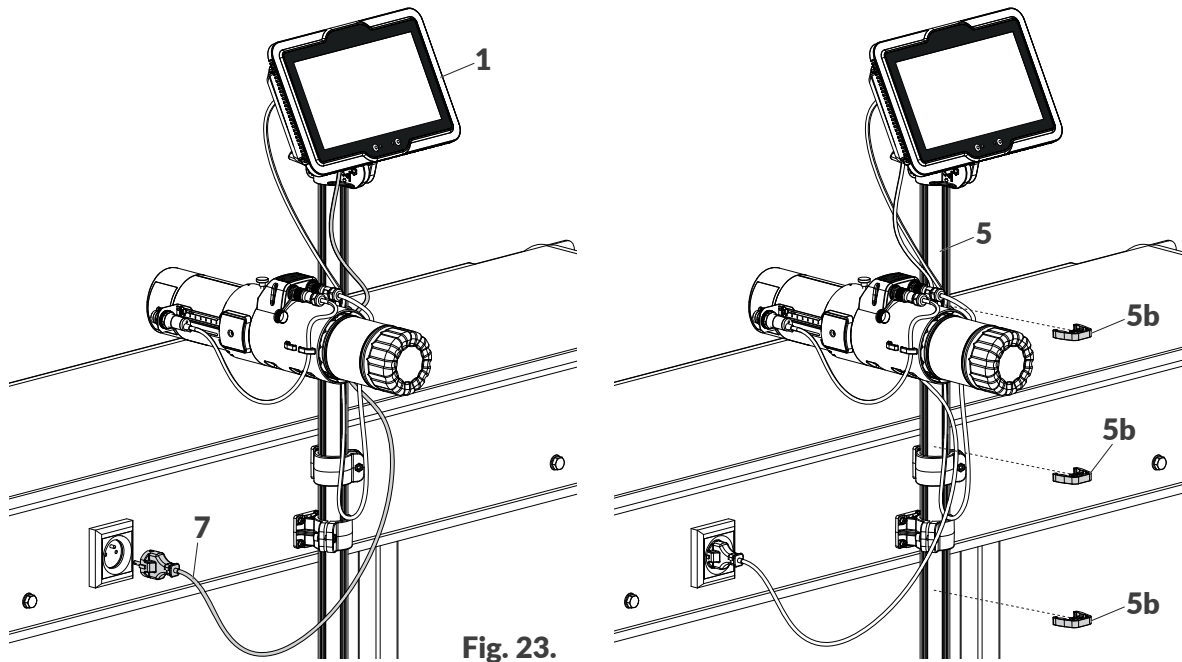

Fig. 23.
12. Connect power cord **7** to control unit **1** and to earth pin socket (see Fig. 23 on page 29).